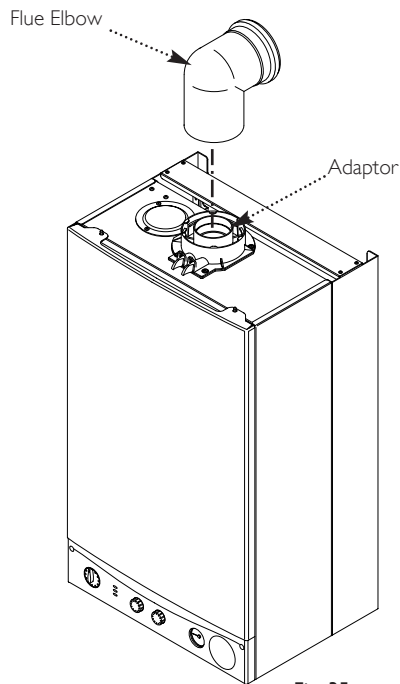

Fig. 35
2. Lift the boiler as indicated by the shaded areas. The boiler should be lifted by TWO PEOPLE. Engage the slots at the top rear of the boiler on the wall plate (Fig. 35) (see **Safe Manual Handling** page 5).
2. Locate the flue elbow on the adaptor at the top of the boiler. Set the elbow to the required orientation (Fig. 35).